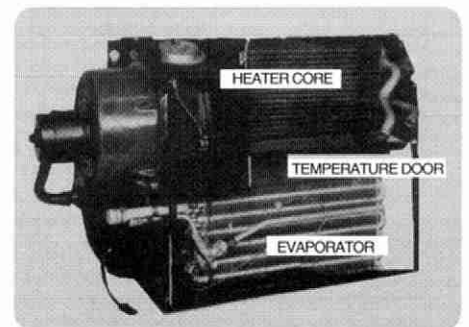

Figure 3
4. Carefully remove thermostat sensing tube from the evaporator core and bend it out of the way. Remove the heater core and evaporator core. The evaporator is best removed leaving the expansion valve connected (Figure 3).